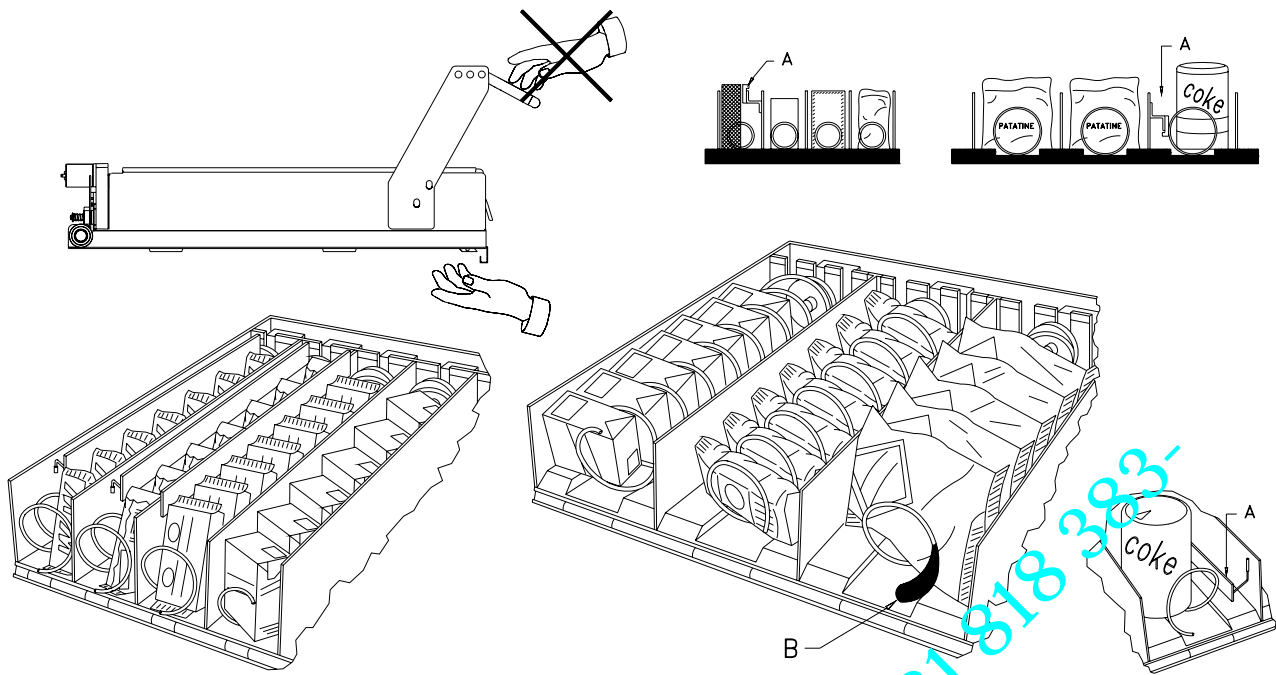

FIG. 2
7.2 DISTANCIADORES DE PRODUCTOS EN CAJONES (FIG. 2)
7.3 EXPULSOR DE PRODUCTOS (FIG. 2)